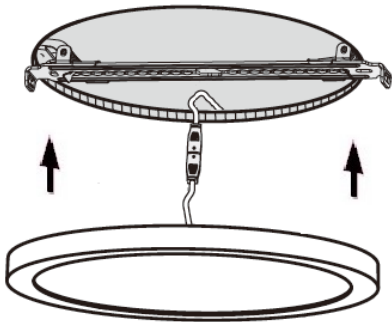

Fig.4
- Push the luminaire directly onto the bracket (see Fig. 4)